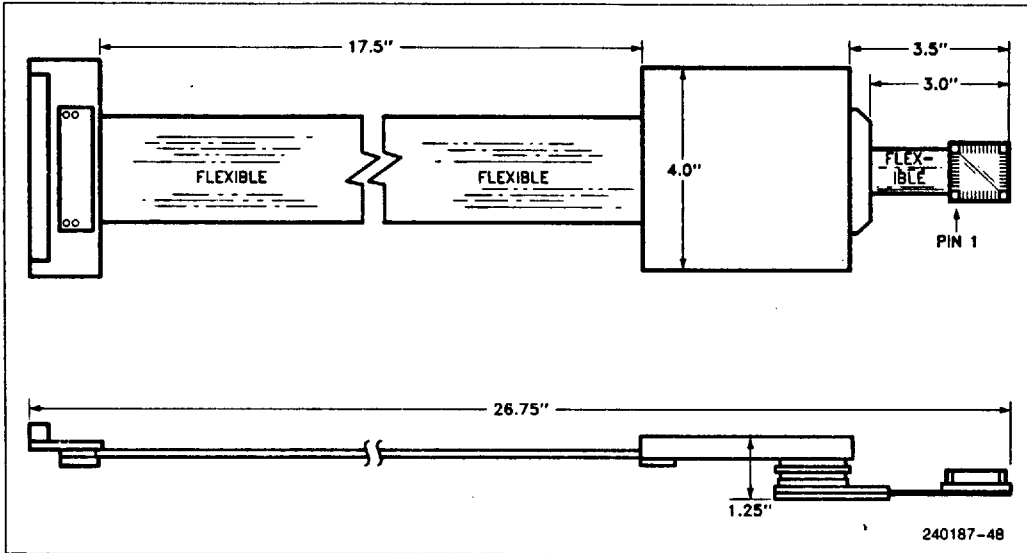
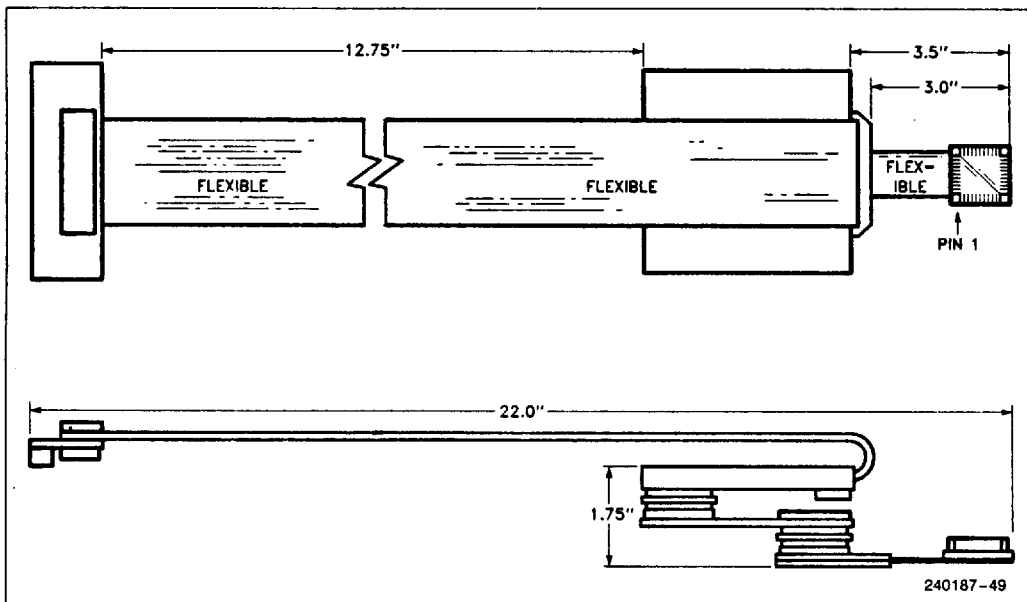

Figure 7.12. Preliminary ICE™-Intel386™ SX Emulator User Cable with PQFP Adapter
Figure 7.13. Preliminary ICE™-Intel386™ SX Emulator User Cable with OIB and PQFP Adapter
**Intel386 SX CPU Location and Orientation:** The ICE-Intel386 SX emulator processor module may require lateral clearance. Figure 7.12 shows the clearance requirements of the iMP adapter. The optional isolation board (OIB), which provides extra electrical buffering and has the same lateral clearance requirements as Figure 7.12, adds an additional 0.5 inches to the vertical clearance requirement. This is illustrated in Figure 7.13.